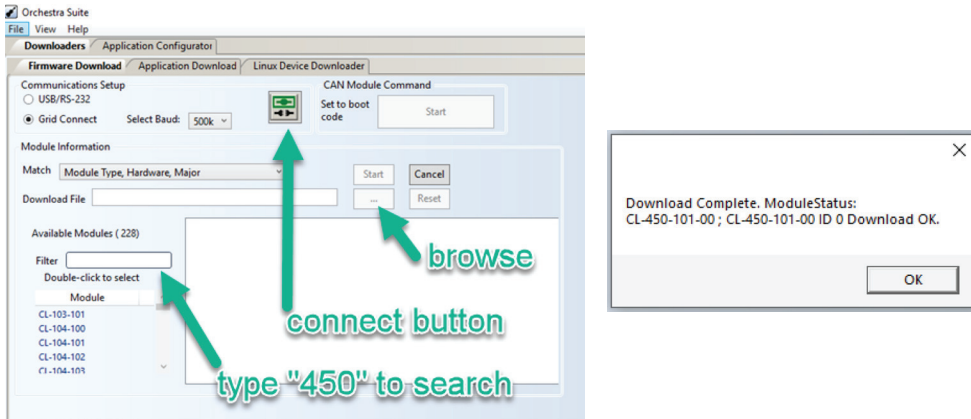

Figure 29
- l. Select the *Connect* button. See Figure 29. When connected the keypads blink and the dome lights turn off. If keypads are not blinking and dome lights are not off, select *Connect* button again.
- m. Enter *450* in *Filter* field to search for *CL-450-101-00*. See Figure 29.
- n. Double click on *CL-450-101-00* from module list to select. See Figure 29.
- o. Browse to the computer drive or flash drive location where the controller update programming files are located and select the file to you want to load by clicking on it. See Figure 29.
- p. Click *Start* button. See Figure 29. Status will say downloading to approximately 5 minutes.